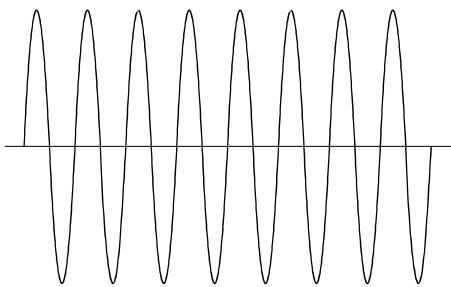

Figure 3.1—Interferential Waveform (Sine Wave)
1. Connect the line cord to the bottom of the Sys*Stim 226. (See Figure 3.1)